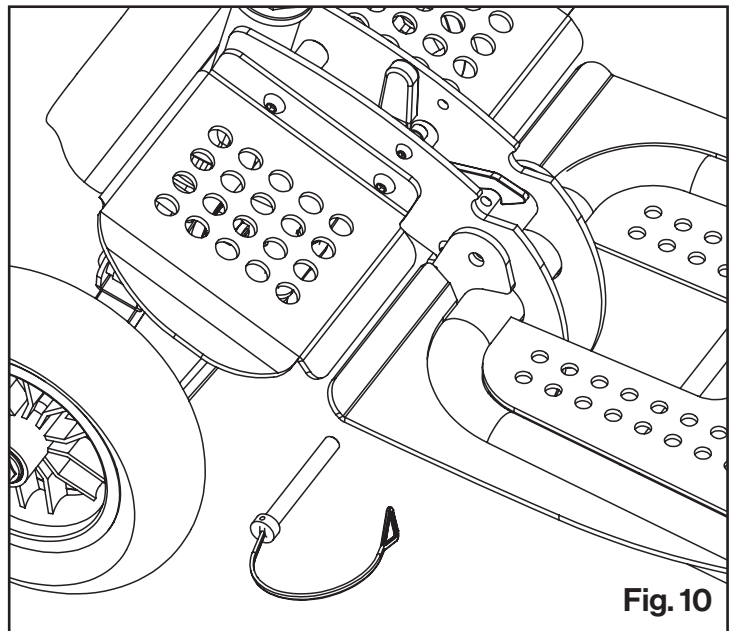

Fig. 10
- 2) Open the wire clip of D-pin, and remove the D-pin. **(Fig.10)**